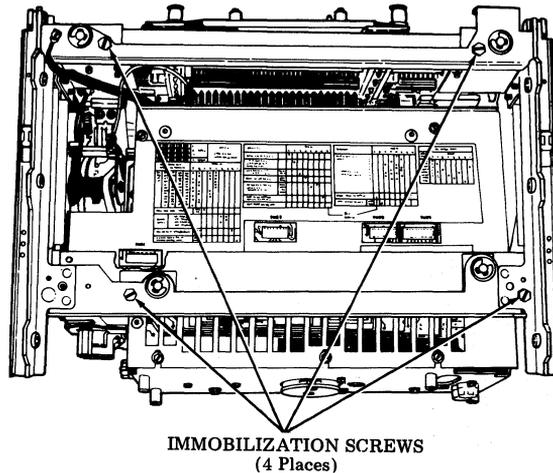

Fig. 25
- 6.07 Loosen four immobilizing screws far enough so that the base rides freely on the shock mounts (Fig. 25).